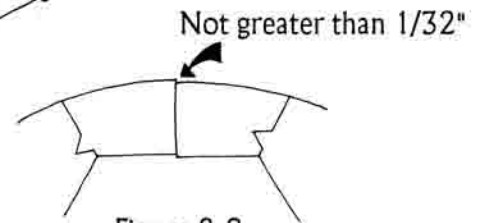

Figure 8-2
1. Because shaft halves may become slightly out of round as they absorb or lose moisture, it is important to preassemble before gluing. The seams should join together smoothly when clamped, with no more than a 1/32" variance (Fig. 8-2).